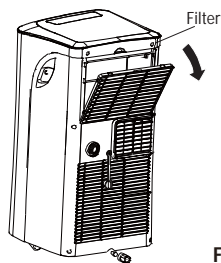

Fig. 26
- This unit has a filters. Grasp the upper panel tab and take off the filter which behind the grill of the back panel (Fig.26).